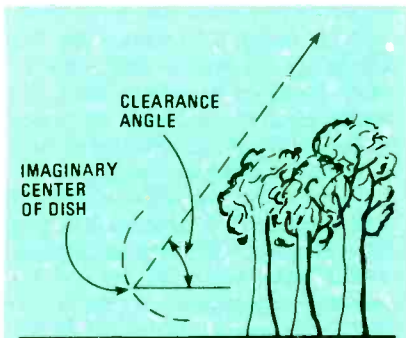

FIG. 3—WHEN SELECTING A SITE for your dish, be sure that there are no obstacles between the dish and any satellites that you wish to view.
- If you can sight along the line indicated by the inclinometer and not see anything but sky (assuming, of course, that you are facing in the proper direction), then your site will be fine for your dish (see Fig. 3).